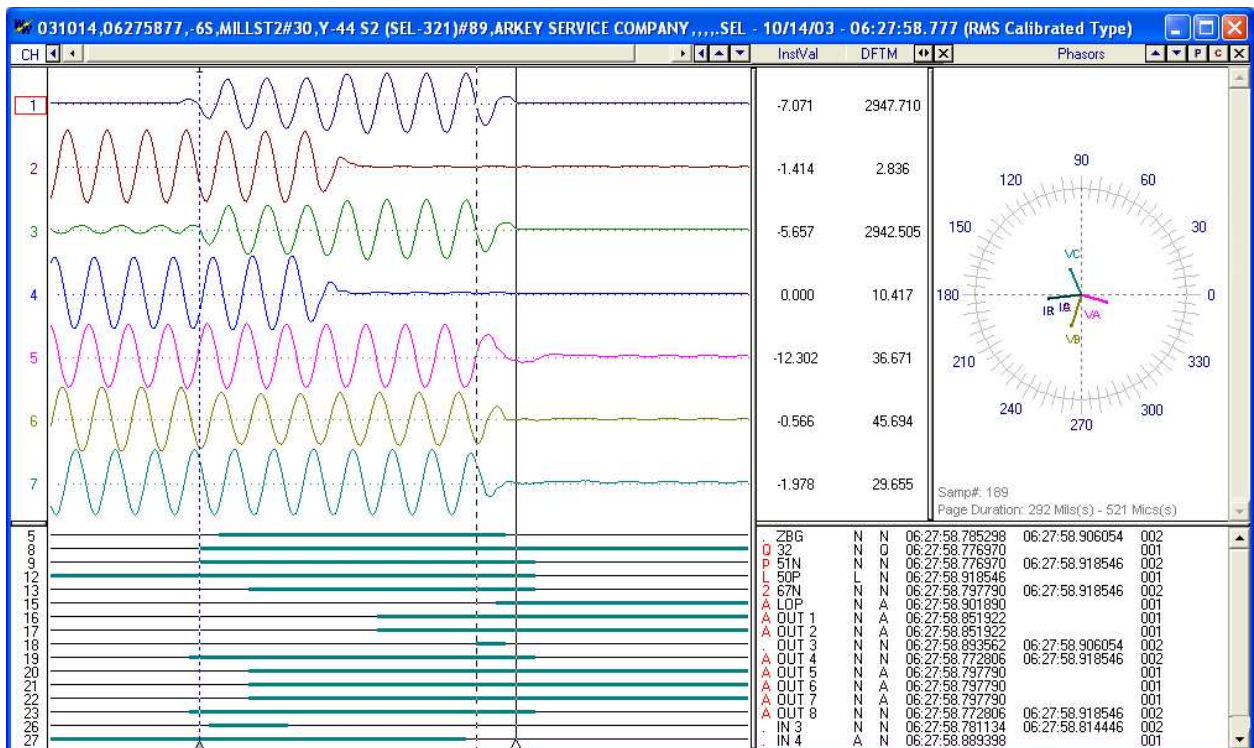

Figure 4.31 Append Waveform Files: Discard Common Times
- Discard Common Times: Any common times found in the marked files will be deleted from the older file. Refer to Figure 4.31.